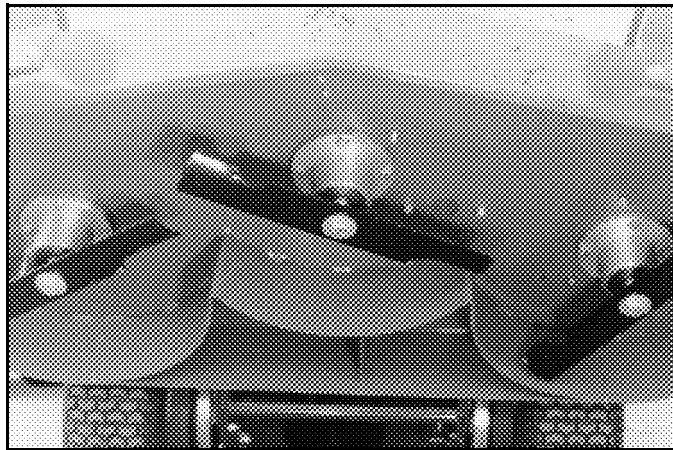

Figure 5 48" Cutting Deck Shown
- b. Tip the mower back and block up the front of the deck. **See Figure 5.**